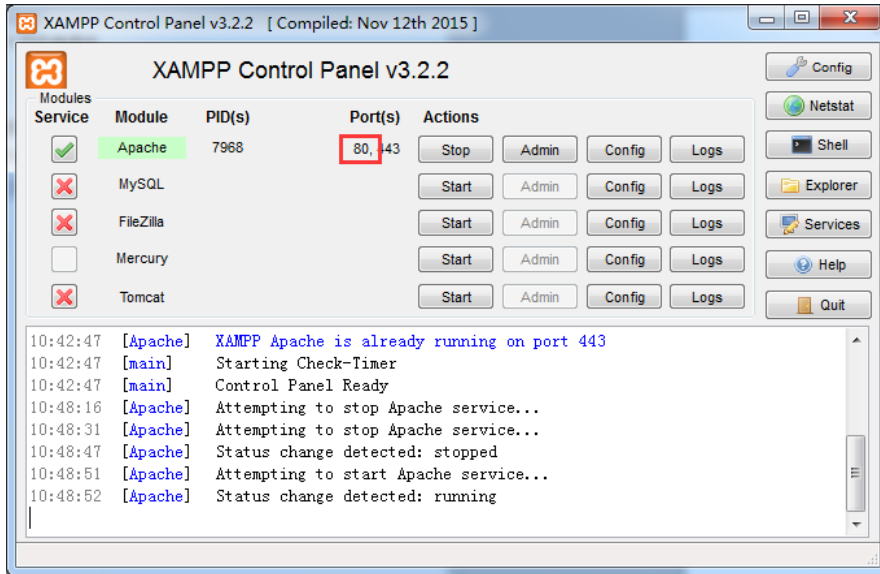

Figure 1-2 XAMPP Server Interface
- 4) Enter **80** in the **Dest port** field (i.e., the port of XAMPP), as shown in Figure 1-2